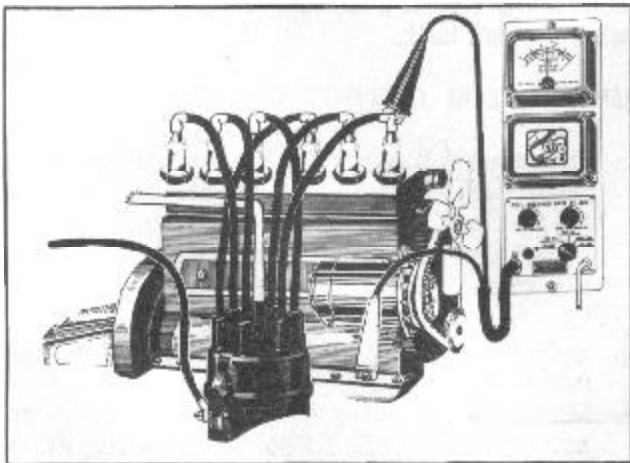

FIGURE 18
1. Connect primary lead (Red Insulator) of the Coil Breaker Unit to engine for a ground, the other primary lead (Black Insulator) to the number one spark plug, Figure 18.